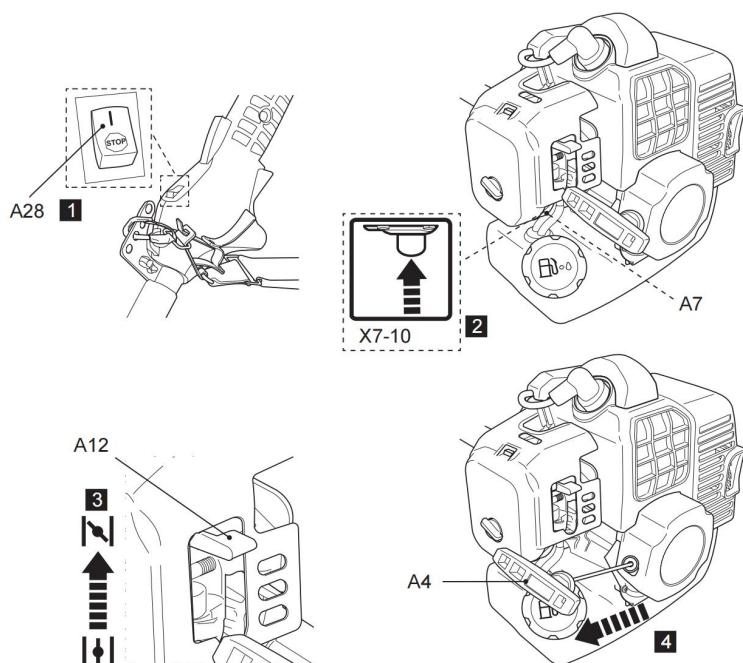

Fig. 38
5. Hold the product stable and pull the recoil starter handle (A4) slowly until you feel resistance then pull it rapidly. Move the choke slight downward to middle position if the engine does not start after trying up to 8 times. Do it again until the engine starts (Fig. 38).